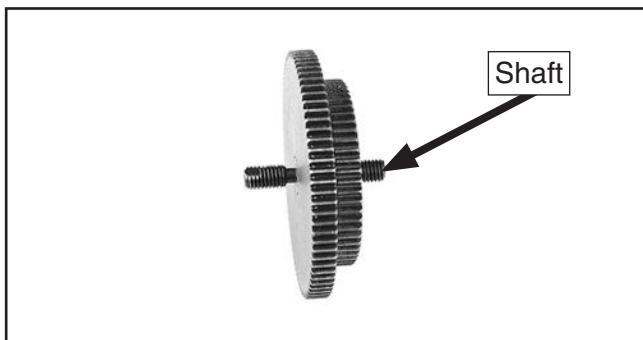

Figure 82. Shaft installed into 80T/60T gears.
15. Put dab of NLGI #2 grease onto 80T/60T gear shaft, then insert longer end of shaft into gear (see **Figure 82**).